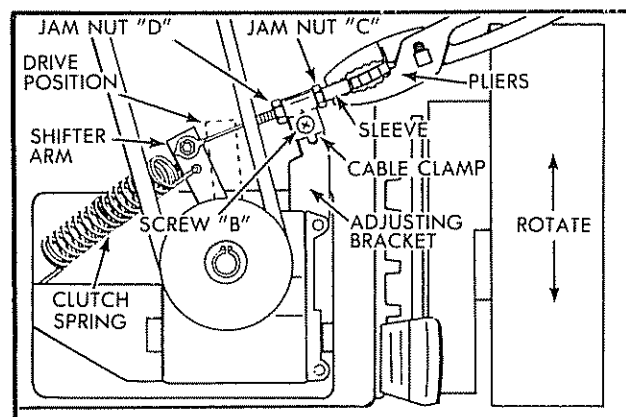

FIG. 17
2. Loosen screw holding cable clamp (See Fig. 17).
3. Loosen screws holding cable clamp "A" & "B" (See Figs. 17 and 21).
4. Loosen both jam nuts "C" & "D" at the cable clamp on the gear case adjusting bracket (See Fig. 17).
5. Unhook clutch spring from shifter arm (See Fig. 17).
8. Hold shifter arm in fully engaged position by pliers as shown in Fig. 17. DO NOT pull on control cable.
10. Tighten cable clamp screw "B" (See Figs. 17 and 21).
11. Tighten jam nut "D" up to bracket (See Fig. 17).